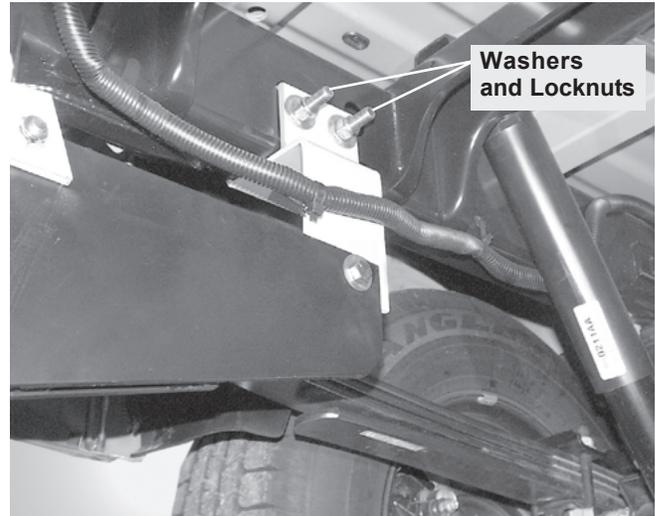

Figure 7
5. Secure with 1/2" flat washers and 1/2"-13 locknuts. (See Figure 7.)